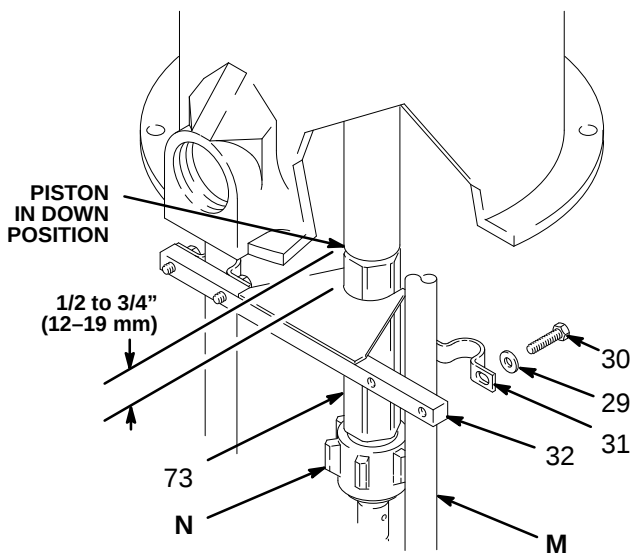

Fig 2 01814
2. Fasten the restraining bracket (32) to two of the three tie rods (M), using the clamps (31), with the screws (30) and washers (29) loosely installed.
3. Turn the piston tube stud (73) to align it with the slot in the bracket (32). Raise the bracket to 1/2 to 3/4 in. (12–19 mm) from the top of the stud. Hold the bracket and tighten the tie rod clamps securely. See Fig 2.